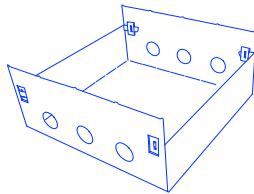

Fig 4.
6. Push together until the interlocking tabs lock into place – Fig 4.